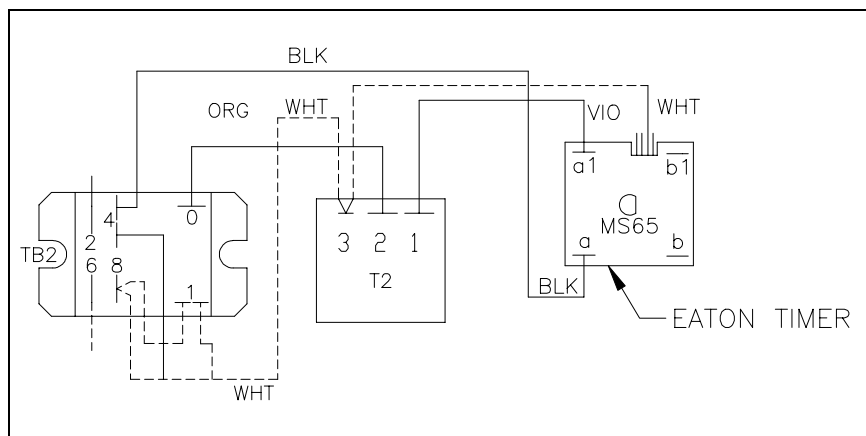

Fig.1
- 6.0 Connect the wires to the silver tabs of the new Eaton timer. See Fig 1. Note the letters on the back of the timer.